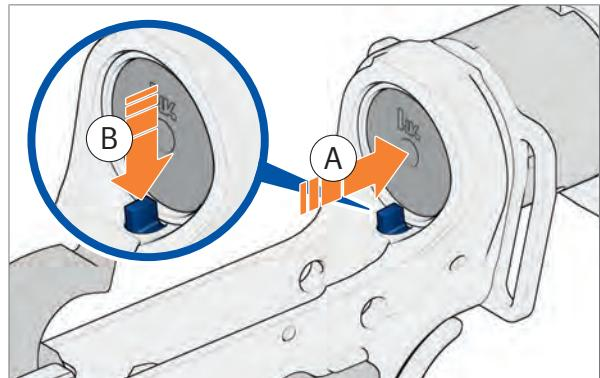

Fig. 93: Push in locking pin for buffer
2. Push buffer into the buttstock and hold it (Fig. 93).
3. Press locking pin for buffer in and hold it (Fig. 93).